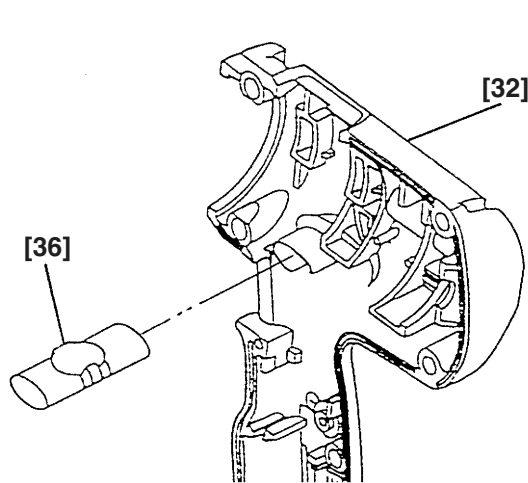

Fig. 15
(5) Installation of the assembly reassembled in step (3) into Housing (A). (B) Set [32]
(a) Install the Pushing Button [36] into housing (B). (See Fig. 15.)